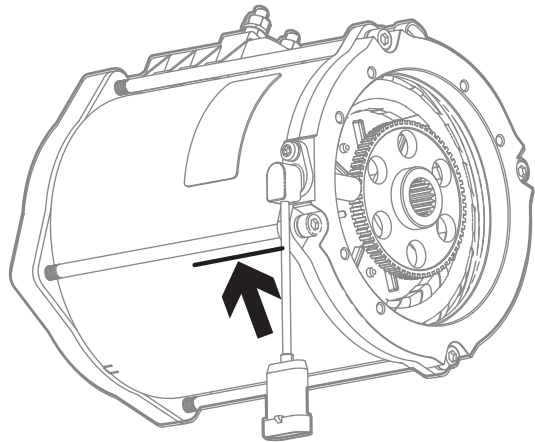

Fig. 3 Mark Axle and Motor
2. Mark both the axle and motor housings to help with realignment during assembly of the motor to rear axle (Ref. Fig. 3).